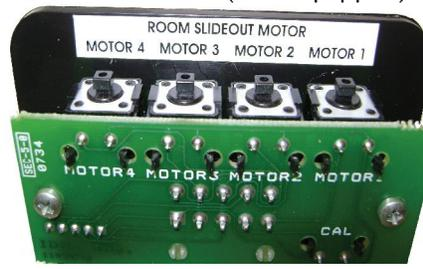

Figure 5
- a. Press and hold the SLIDEOUT room motor buttons (Motor 1, Motor 2, Motor 3, and/or Motor 4) on the back of the wall touchpad (Figure 5) that correspond to the SLIDE OUT motors you want to move. These buttons correspond to the slideout room motors only and NOT the room lock motors.
- a. Press and hold all SLIDEOUT motor buttons (Motor1, Motor 2, Motor 3, and Motor 4) on the back of the wall touchpad. (Figure 5)